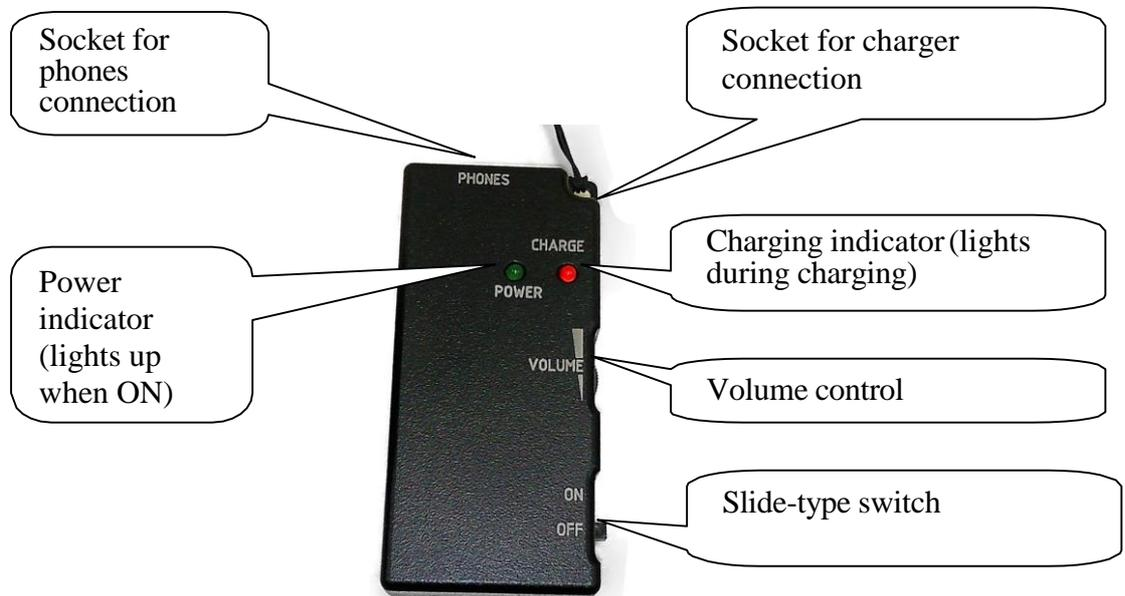

Fig. 4 Receiver
**4.6.** Control elements of the receiver are shown in Fig. 4.